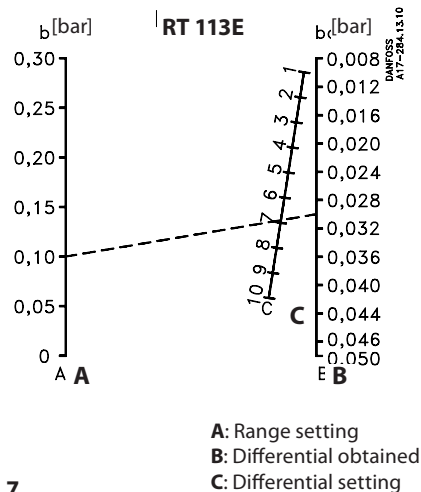

Fig. 7
The differential is set by rotating the differential adjusting nut (19) according to the nomogram concerned (fig. 5 or fig 7).